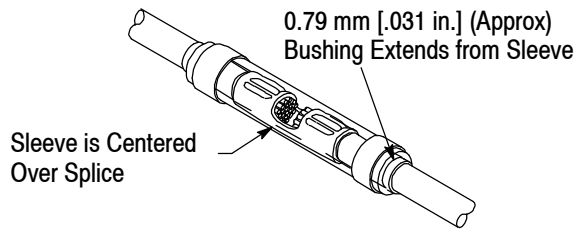

Figure 5
8. Slide the bushings against the wire barrels, then center the sleeve over the splice. Make sure that the bushings and sleeve are properly positioned according to the dimensions shown in Figure 5.